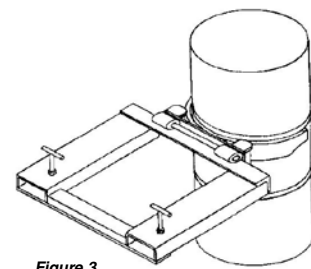

Figure 3
- When jaws surround drum, raise forks until jaws rest under upper rolling rib. Drum can now be raised and moved where desired. (Figure 3).